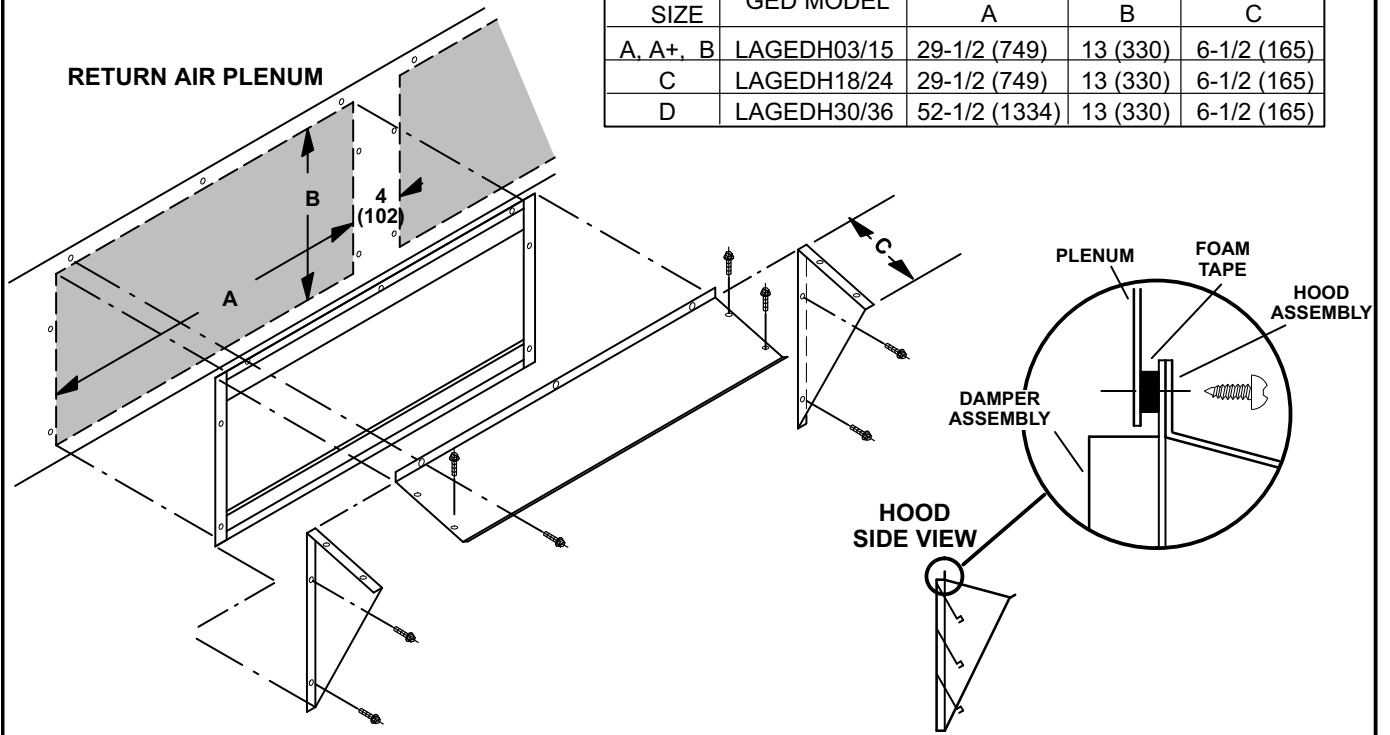

FIGURE 1
- 1- Cut one opening in return air plenum on A, A+, and B box units and two openings in return air plenum on C & D box units. See figure 1 for dimensions. Make sure opening is centered top to bottom in plenum. On C & D box units, gravity exhaust dampers may be installed either on opposing sides of plenum or adjacent to each other. If adjacent, allow a minimum of 4" (102mm) between the two openings.
- 5- Slide combined LAGEDH assembly into plenum opening and secure using screws provided. See figure 1.